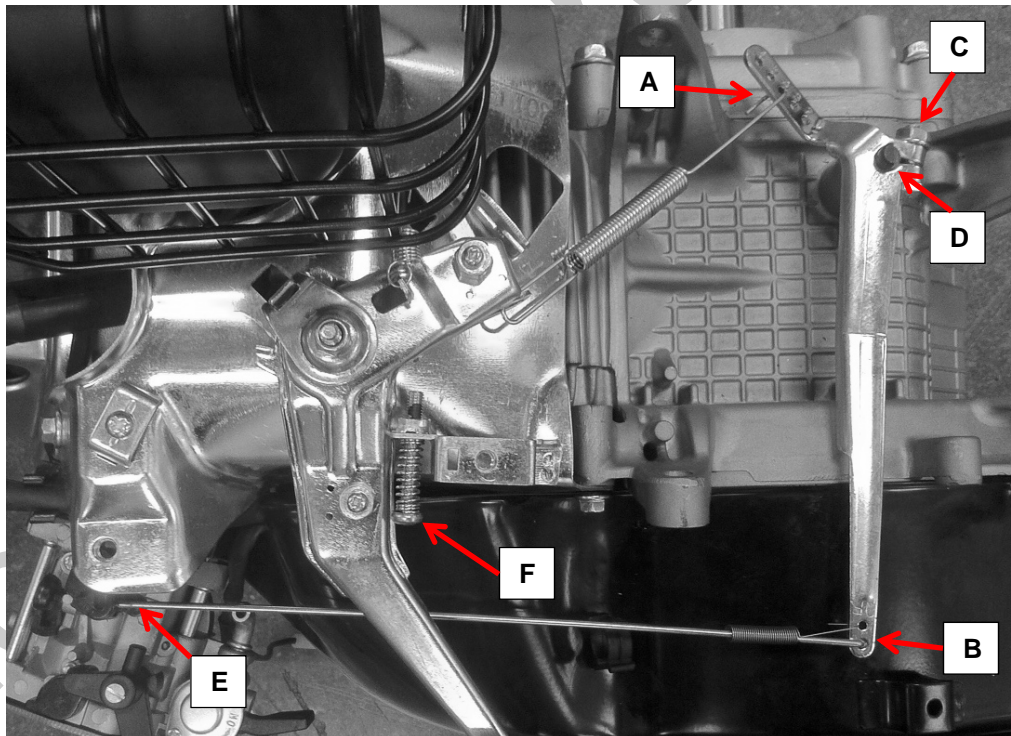

Figure 3
- 1) Ensure that the hook of the governor spring is installed on the governor lever in the orientation shown (A, Figure 3).
- 2) Ensure the throttle link is in the outer hole and the link spring is in the inner hole of the governor lever (B).
- 3) Loosen the governor lever nut (C).
- 4) While holding the carburetor throttle shaft at wide open throttle, rotate the governor shaft (D) counterclockwise until it stops.
- 2) Hold the throttle against the idle speed screw (E, Figure 3). Using an appropriate tachometer, adjust the screw to obtain 1750 +/- 100 RPM.
- 3) Move the throttle to high speed. Fine tune the top no load engine speed, if necessary, with the speed adjustment screw (F) to obtain the equipment manufacturer's top no load speed specification.